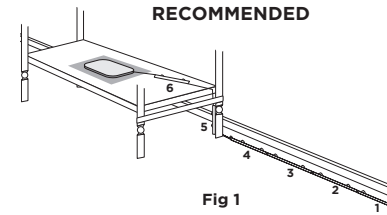

Fig 1
- 1) Use the crib leg by the wall closest to the Nursery Unit (**Fig 1**). In cases where the Nursery Unit is across the room, use the leg closest to the Nursery Unit to position the covered wire (**Fig 2**). It is always preferable that the covered cord run along a wall.